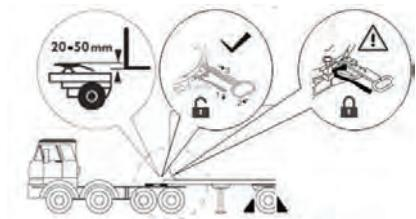
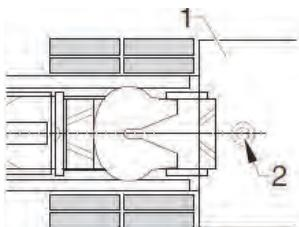

Figure 1
Figure 2
- 2- Check that 5th wheel lock is open. The port for the semi-trailer pin should be open. (see Figure 1)
- 3-Position the truck in front of the semi-trailer. (see Figure 1 and Figure 2)
4-Position the vehicle so that there is a clearance of 20 to 50 mm between the bottom of the semi-trailer and the 5th wheel platform (see Figure 1)